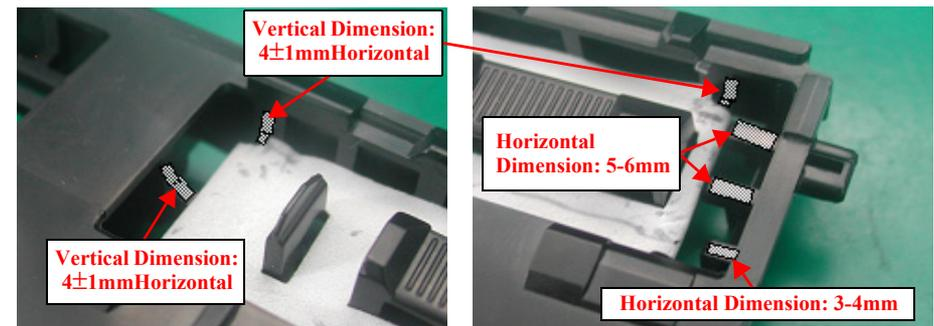

Figure 2-14. Gluing point of the Porous Pad, Paper Guide, Front
- Apply Three Bond 1401 to the six points shown in Figure2-14.